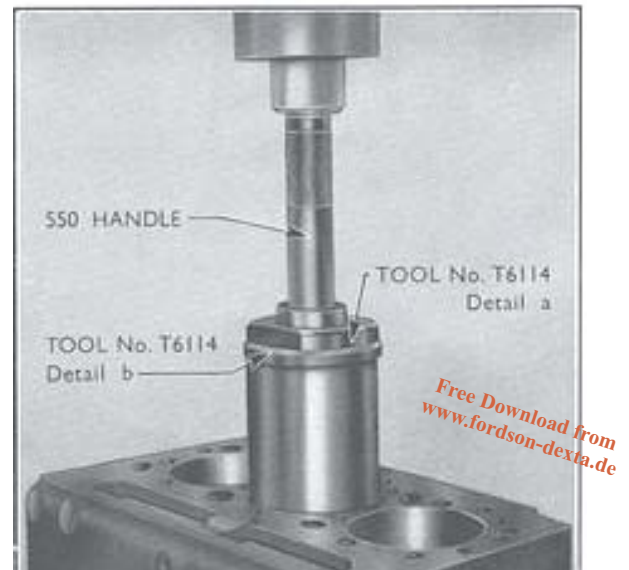

Fig. 25
4. Enter the liner into its bore in the cylinder block with the long chamfer in the line bore downwards. Assemble replacer ring (Tool No. T.6114/a to adaptor (Tool No. T.6114/b) and locate in the cylinder liner (see Fig. 25).